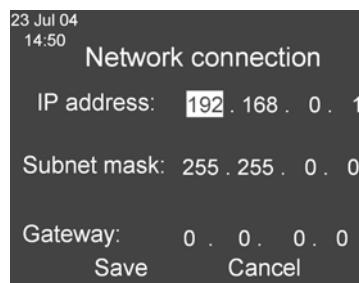

Figure 27: Network Connection- IP Address
3. Read the IP address in the Network Connection window (Figure 27).